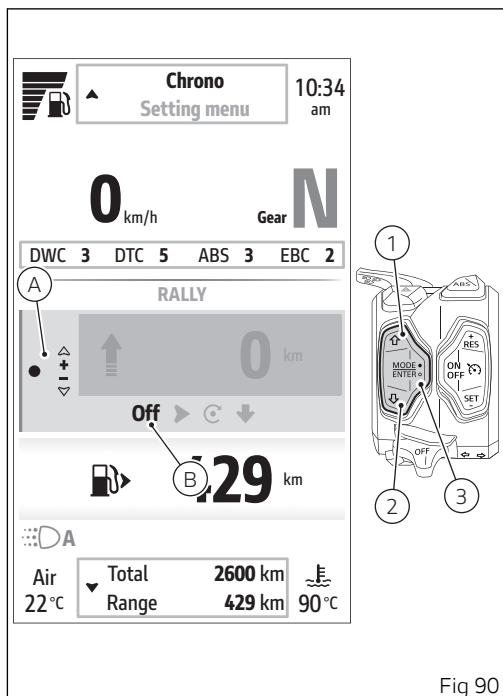

Fig 90
- If the trip master is deactivated, "Off" is displayed (B, Fig 90). Long press the ENTER button (3) to enable it.
- If the trip master has already been activated previously, "On" is displayed (C). Long press the ENTER button (3) to disable it.